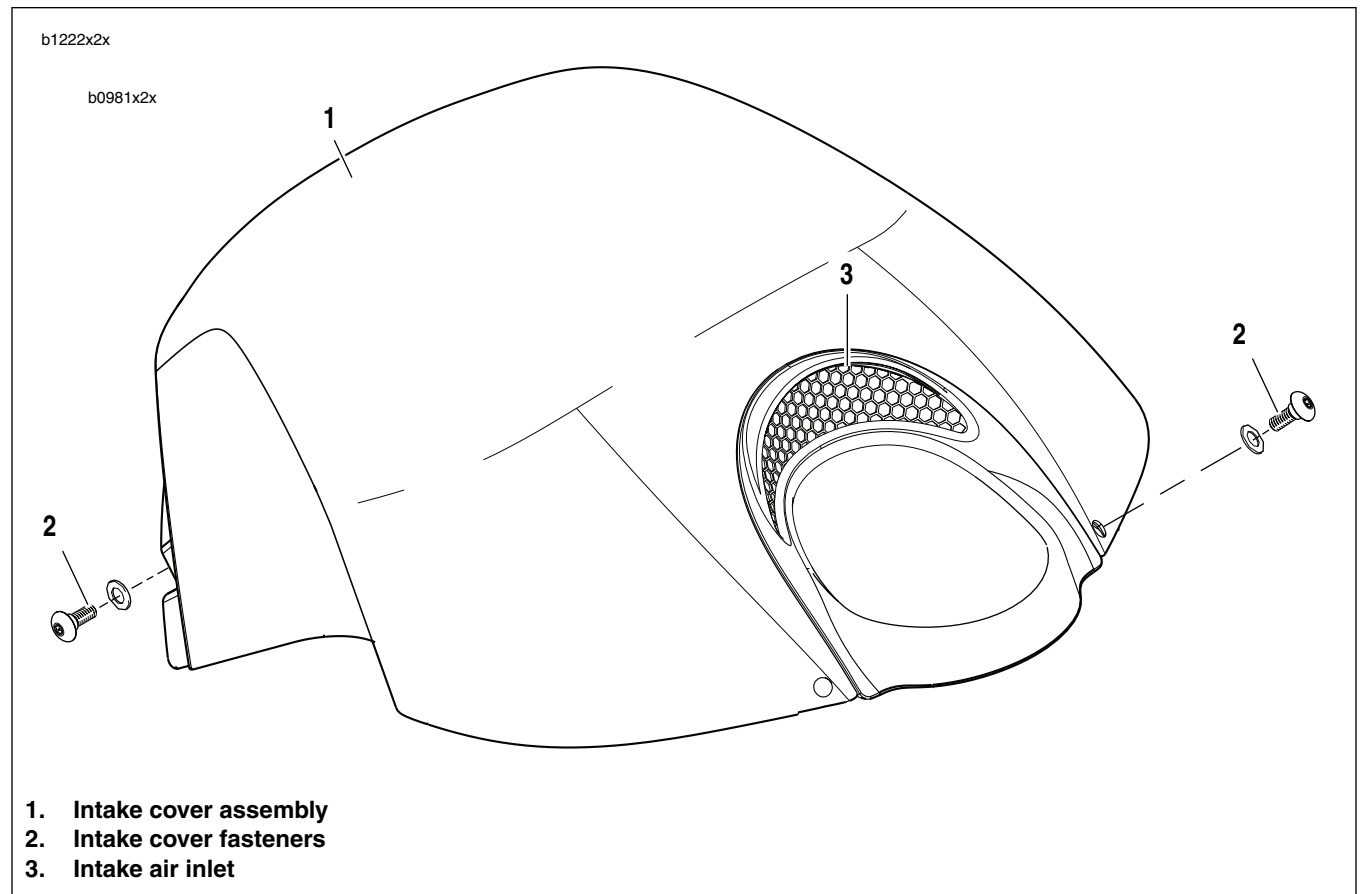

Figure 2-118. Intake Cover Assembly
2. See Figure 2-118. Remove fasteners and nylon washers (2).
3. Remove intake cover assembly (1).
2. See Figure 2-118. Start the front two fasteners (2) with nylon washers.
3. See Figure 2-118. Secure intake cover assembly (1) with fasteners and nylon washers (2). Tighten to 12-36 **in-lbs** (1-4 Nm).